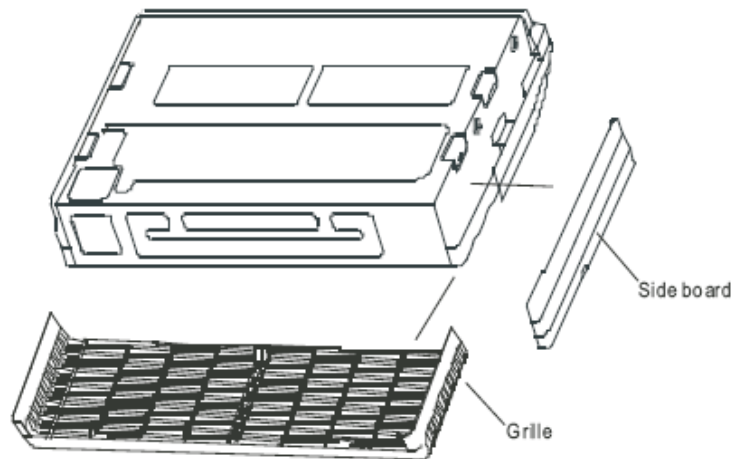

Fig. 1-10
1. Remove the side board and the grille.(Refer to Fig. 1-10) (For 1411 and 1761 Models, do not remove the grille.)